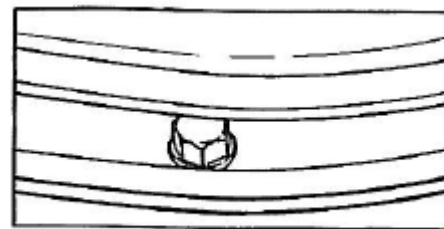

Figure 4
5. Place a nut or similar object between the flange and the lip of the bead seat band. (Fig. 4)